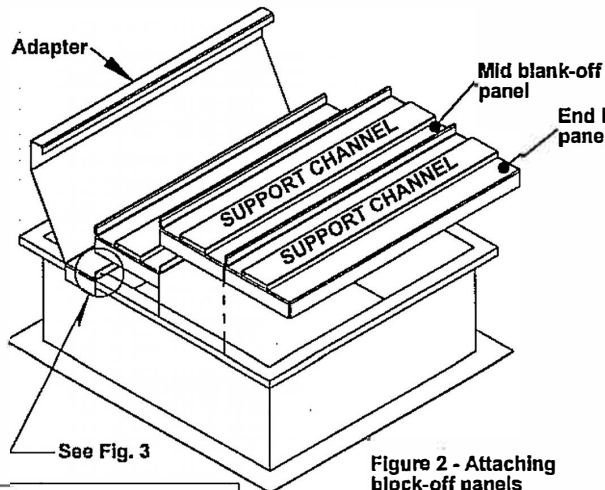
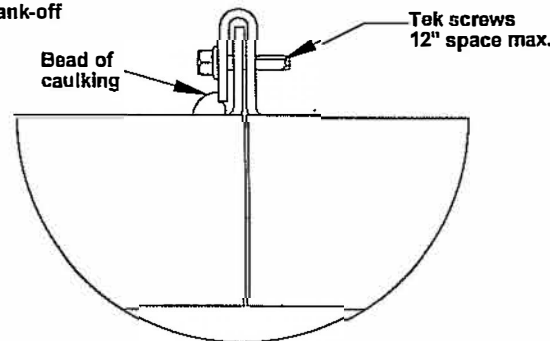

Figure 2 - Attaching block-off panels
Figure 3 - Caulking detail
6. If a blank-off panel(s) is provided with the Cambridgeport curb adapter, it must be placed over the remainder of the existing curb and fastened in place with tek screws no more than 12" apart. Support channel on mid and end panels can support a maximum of 300#. See Figure 2 & 3. All seams must be caulked where leaks may occur. See Figure 3